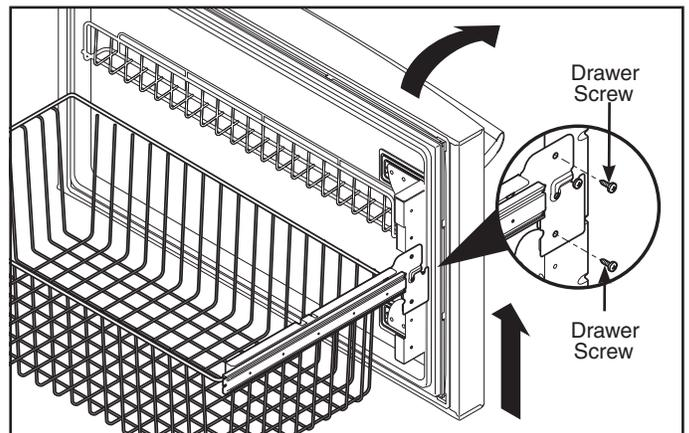

Figure 6-22.
2. Remove drawer screws on right and left sides two (2) screws on each side. (See Figure 6-22)